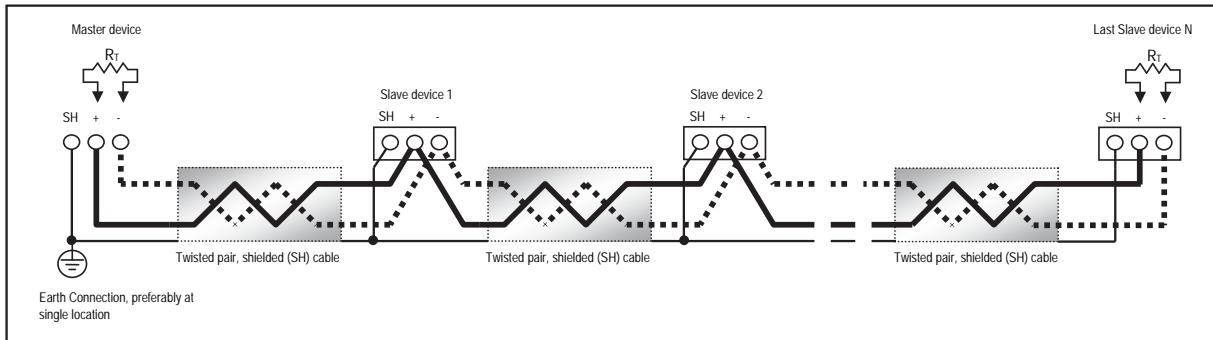

Figure 5.5: RS485 Daisy Chain Connection
- Connect shield to RS485 Master and individual devices as shown in Figure 5.5. You may also connect the shield to earth-ground at one point.
- Termination Resistors (RT) may be needed on both ends of longer length transmission lines. However, since the meter has some level of termination internally, Termination Resistors may not be needed. When they are used, the value of the Termination Resistors is determined by the electrical parameters of the cable.
Figure 5.5 shows a representation of an RS485 Daisy Chain connection. Refer to Section 5.1.2.1 for details on RS485 connection for the Unicom 2500.